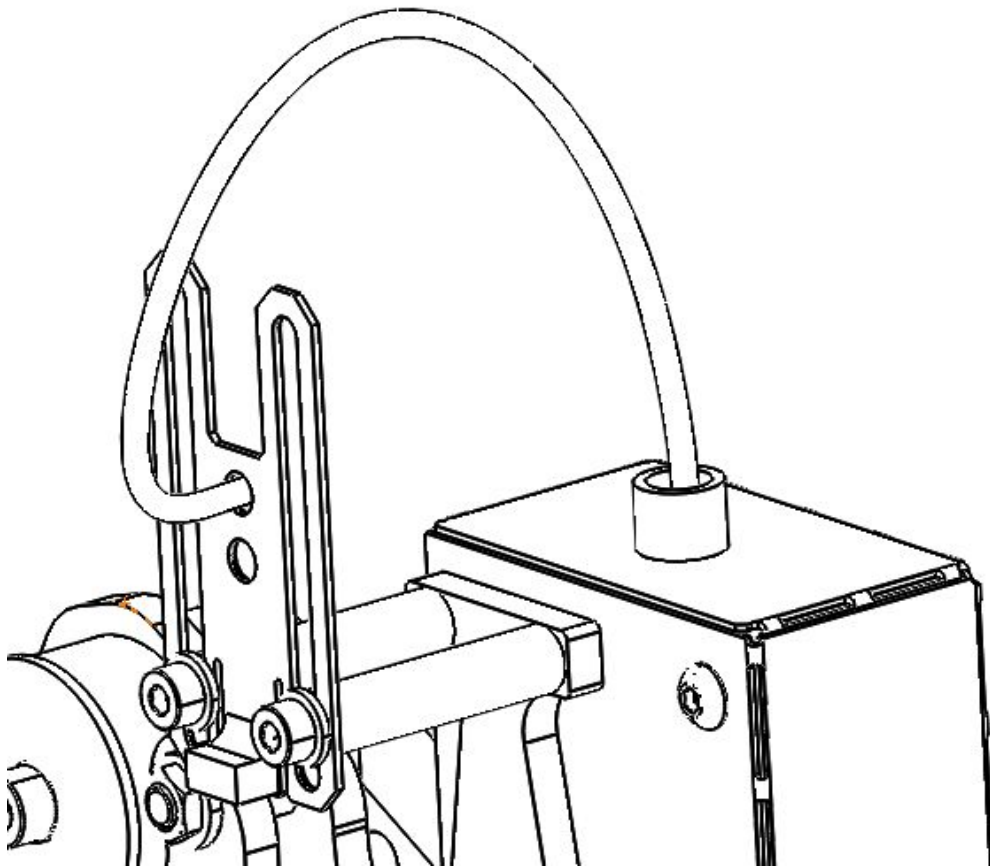

Fig. 5.1: Optical probe connected to the control console
- ❑ Connect the optical RPM probe cable to the connector on the metal box of the load measurement unit, marked optical probe, as shown in Fig. 5.1.